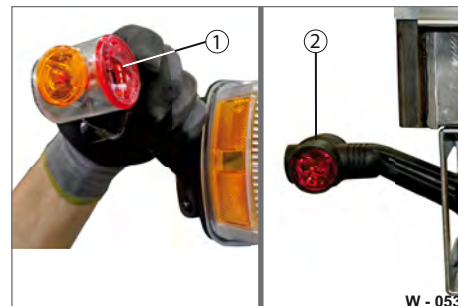

Fig. 61 Turning up rubber arm
- Screw on the light body (Fig. 61/1) with the screw fitting (Fig. 59/3). Ensure that the seal is fitted correctly.
- Put the rubber arm (Fig. 61/2) over the light body.